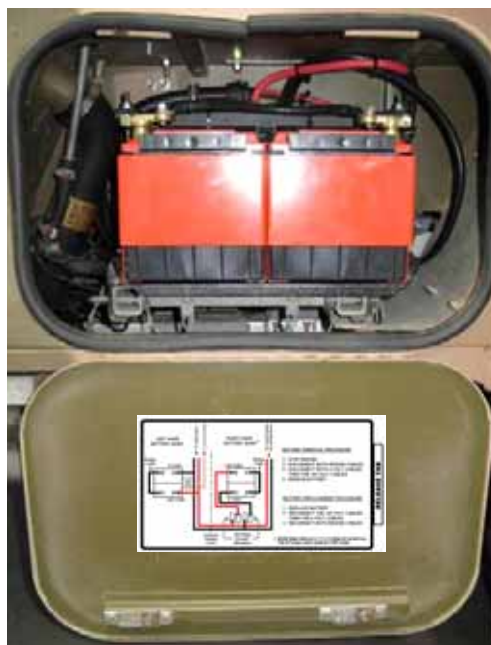

Figure 51 Auxiliary Battery Circuit Diagram Decal
- (8) Remove the existing circuit diagram decal from the inside of the left-hand battery enclosure door. Clean the inside of the door with a suitable solvent, remove the backing from the new decal (Table 1, Item 76) and press it into position centrally on the door as shown in Figure 51.